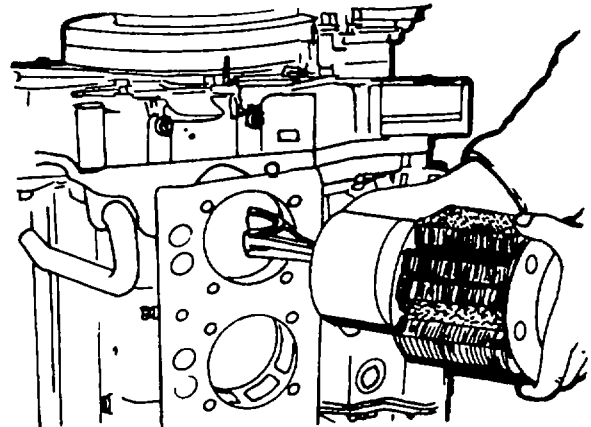

Figure 5-41. Installing Cylinder, Piston, and Connecting Rod
7. Install the cylinder, piston, and connecting rod assembly so that the exhaust air side of the piston faces the tappet bores (figure 5-41).